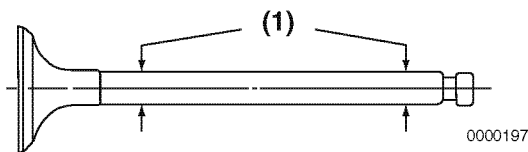

Figure 6-56
Use a micrometer to measure the valve stem diameter. Measure the valve stem near the combustion end and near the opposite end (**Figure 6-56, (1)**). See *Intake / Exhaust Valve and Guide* on page 6-5 for the service limit.